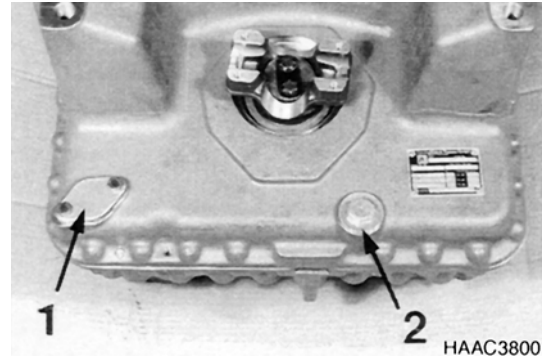

Figure 287
4. Install gasket and cover plate (1, Figure 287).